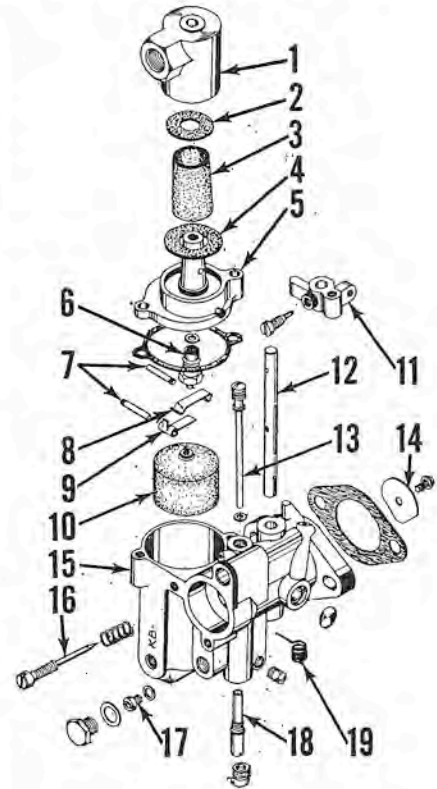

Fig. M76—Exploded view of Tillotson carburetor of the general type used on most models.
Tillotson Carburetors: Fig. M76 shows an exploded view of carburetor typical of that used on all models. Minor difference will be apparent upon examination. AJ-49A carburetors used on some early models do not use the fuel filter (1 through 4). Some early carburetors employ an adjustable high speed needle instead of the fixed jet (17).